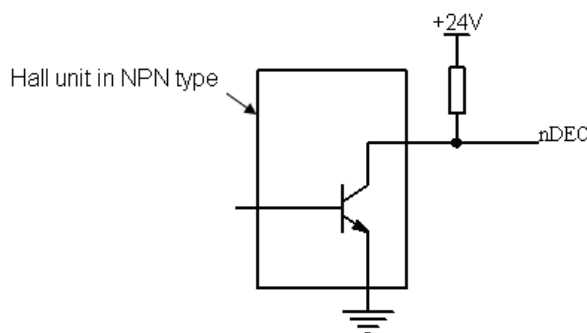

Fig. 2-1-10 Connection with NPN-type Hall unit
② Refer to Fig. 2-1-10 for the connection method of taking one NPN-type Hall unit as the deceleration signal: